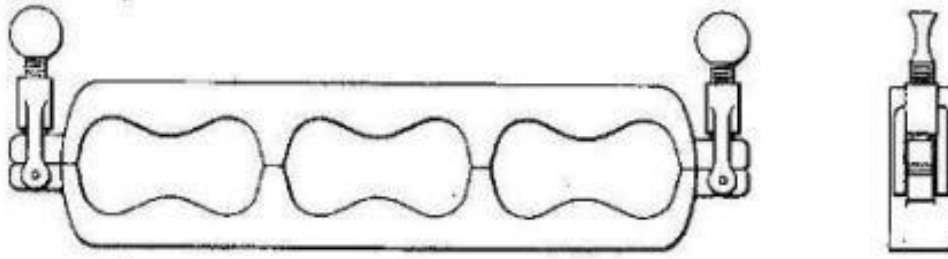

Figure 2 —Briquette Mold
- 5.1.2 *Briquette mold*, of the type shown in Figure 2. The waistline of each briquette must be 1 ± 0.02 in. (25 ± 0.5 mm), and the thickness of the molds must be 1 ± 0.02 in. (25 ± 0.5 mm).